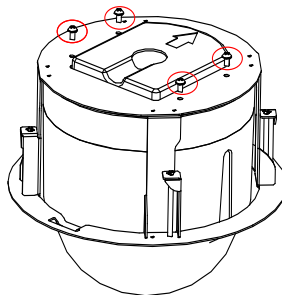

Figure 1-56 Remove the Screws
- Loosen and remove the 4 screws as shown in Figure 1-56.